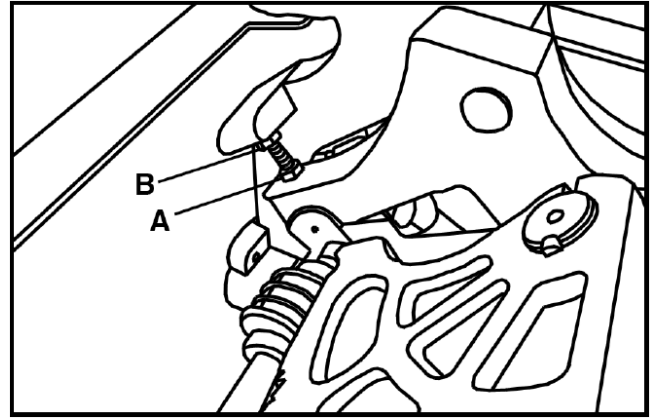

Fig.27: Adjust 45 degrees
5. If the 45 degree positive stop is not set properly, turn the same hand wheel clockwise as far as it will go and follow the same procedure using lock nut (C) As **Fig.27** and stop ring (D). The stop bolt (D) should stop against the front trunnion bracket when the blade is at 45 degrees to the table. Recheck and adjust further if necessary. Retighten lock nut (C).